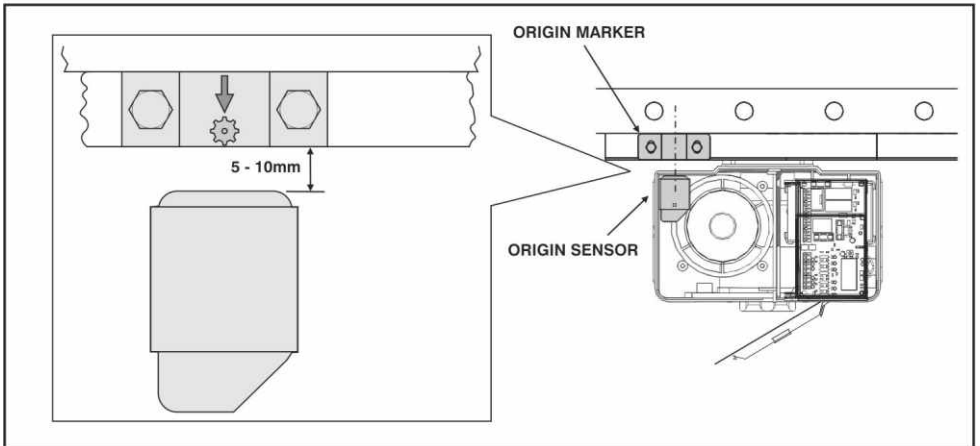

Figure 20 Origin Marker and Sensor Clearance
- Open the gate until the origin marker is in line with the origin sensor and adjust the clearance between the origin sensor and origin marker to between 5 and 10mm (Figure 20). For optimum performance, try and keep this distance as small as possible.